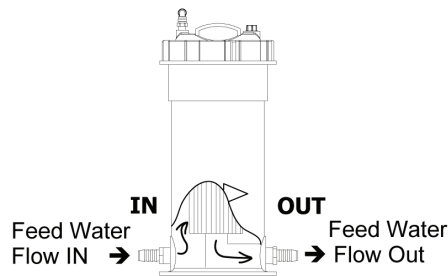

Figure 5b: Follow the labeling - NOT the molded arrows and lettering
The optional Commercial Prefilter replaces the 10 in. (25.4 cm) Dual Prefilters. The Commercial Prefilter is mounted to a flat horizontal surface using the supplied screws. Maintain an orientation and accessibility that allows the operator access to remove the filter element for maintenance. Allow minimum 12 in. (30.5 cm) above the top of the housing for filter element removal. Mount the Commercial Prefilter in close proximity to the outlet of the Booster Pump and the System frame. The commercial prefilter is plumbed as per the raised arrow and Inlet and Outlet letters molded into the filter housing. The correct water flow enters the outer surface of the filter element and migrates to the center core. *Refer to PAGE 5-3, fig. 5b*
14. The no-charge optional Oil/water Separator is mounted to a flat horizontal surface using the supplied screws. Maintain an orientation and accessibility that allows the operator access to remove the filter element for maintenance. Allow minimum 12 in. (30.5 cm) above the top of the housing for filter element removal. Mount the Oil/water Separator in close proximity to the outlet of the Booster Pump and the System frame. *Refer to PAGE 5-3, fig. 5b*
WARNING NOTE (Refer to pg. 5-3, fig. 5b.): The Oil/water Separator utilizes the same filter housing as the Commercial Prefilter. However, the Oil/Water Separator is plumbed opposite of (backwards from) the Commercial Prefilter. This filter housing has a raised arrow molded into the housing indicating flow and the inlet and outlet ports are also marked with raised lettering Inlet and Outlet molded into the housing. For the Oil/Water Separator these markings are INCORRECT. The Oil/Water Separator's correct water flow enters the center core of the filter element and migrates to the outer surface of the filter element (opposite that of the Commercial prefilter).